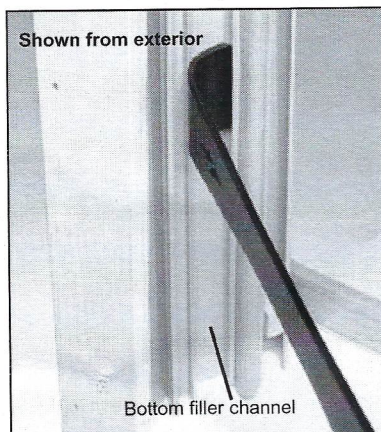

Figure 7
- From the exterior, pry out the jamb hardware assembly using a pry bar by placing it into the bottom filler channel, hooking it into the notches on the side, and levering it out. See figure 7.